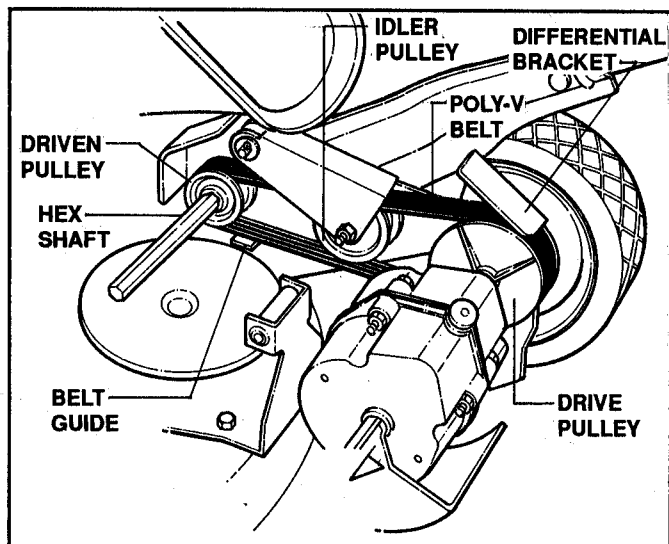

FIGURE 3.22
2. Note the routing of the old belt around the three pulleys before cutting and removing it. See Figure 3.22.
5. Twist belt sideways and pull it upward between the differential bracket and drive pulley and then down into the pulley groove. Make sure belt is above belt guide. See Figure 3.22.